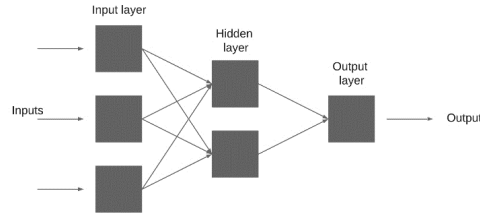

Fig. 2. Example of a feed forward neural network model with one hidden layer.
3) *Choice of model*: The selected model is a Multi-layer Perceptron (MLP) regression algorithm, which is a type of feed forward artificial neural network [17]. Fig. 2 illustrates an example of a feed forward neural network with a single hidden layer containing two nodes. MLP regression is seen as an extension of linear regression and is useful when predicting target values from one or multiple input features. Choice of parameters for the fuel consumption model, such as hidden layers, solver and α parameter, is based on a grid search over relevant parameter values.